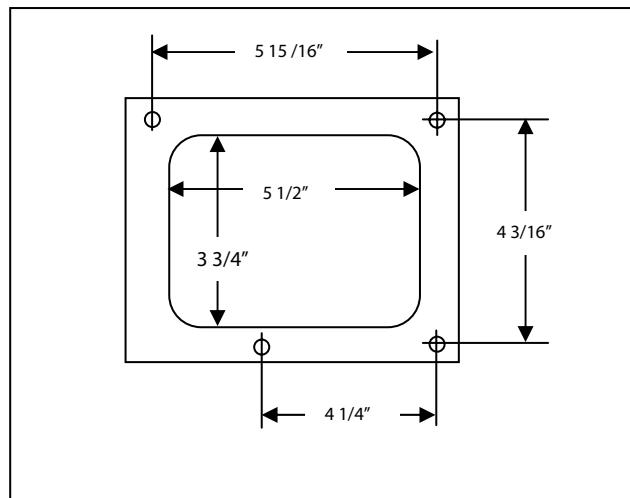
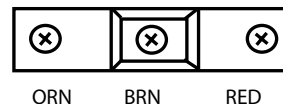

Figure 2. Template Dimensions
Figure 3. Connect Humidifier To "ORN" And "BRN" Terminals.
Dimensions: 4 3/4" X 6 1/2" X 3 1/2" (see Fig.2)
1. Drill the four mounting holes as indicated on Figure 2. using a 1/8" drill.
3. Using four (4) mounting screws, mount humidistat to the duct.
4. Remove the cover and make all electrical connections in accordance with job wiring diagram and in compliance with nation and local electrical codes (see Fig.3).